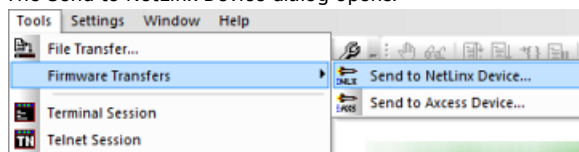

FIG. 40 NetLinx Studio - Tools > Firmware Transfers > Send to NetLinx Device
4. In NetLinx Studio, select **Tools > Firmware Transfers > Send to NetLinx Device** (FIG. 40).